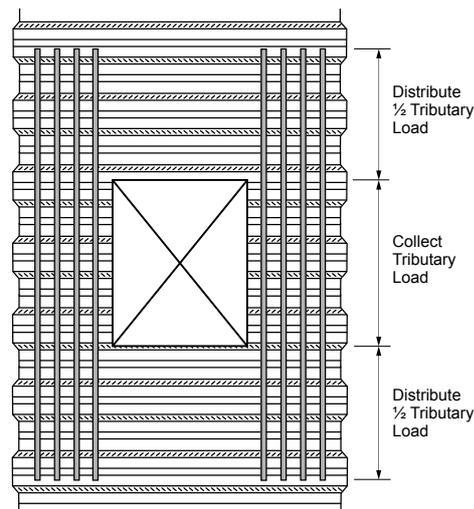

Fig. 1
- **Cut-out method:** an opening of 150mm or less generally does not require specific design. Deck stiffening may be required when using the cut-out method. It is recommended that for small openings between 150-300mm using the cut-out method will incorporate reinforcing via stiffening angles, tube steel or steel channels running perpendicular to the Tray-dec sheets. The reinforcing shall extend at least $\frac{1}{2}$ the opening width past the opening on each side in the transverse direction. The reinforcing shall be placed at least up to $\frac{1}{2}$ the opening width past the opening on each side in longitudinal direction (fig. 1).
- **Deck-over method:** recommended for these applications, where additional reinforcing is to be used in the transverse direction of the Tray-dec sheets. Load distribution shall be like the cut-out method for small penetrations as shown in fig. 1.